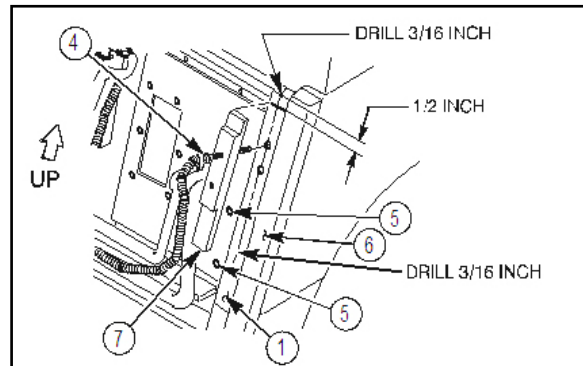

Figure 25b.
- b. Pull closed-cell foam rubber strip (6) off back edge of rear door opening. Retain rubber strip (6) for re-assembly. Refer to figure 25b.
- d. Remove two upset nuts (5) from locations shown in figure 25b. Left side only.